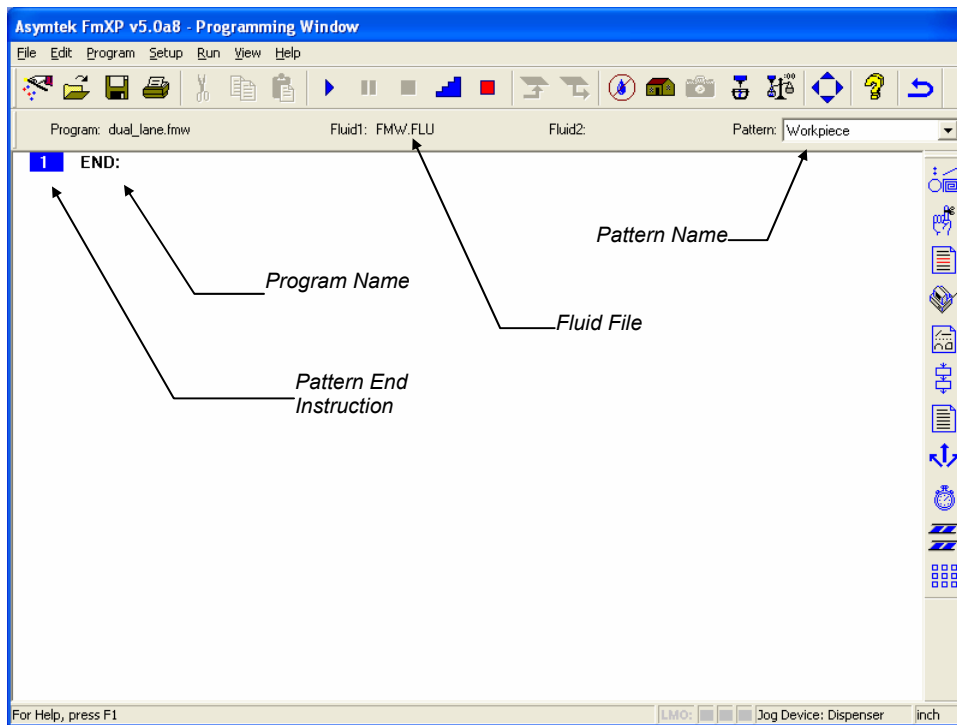

Figure 3-6 New Program Window - Workpiece Pattern
10. When complete, the Programming Window (Figure 3-6) opens.